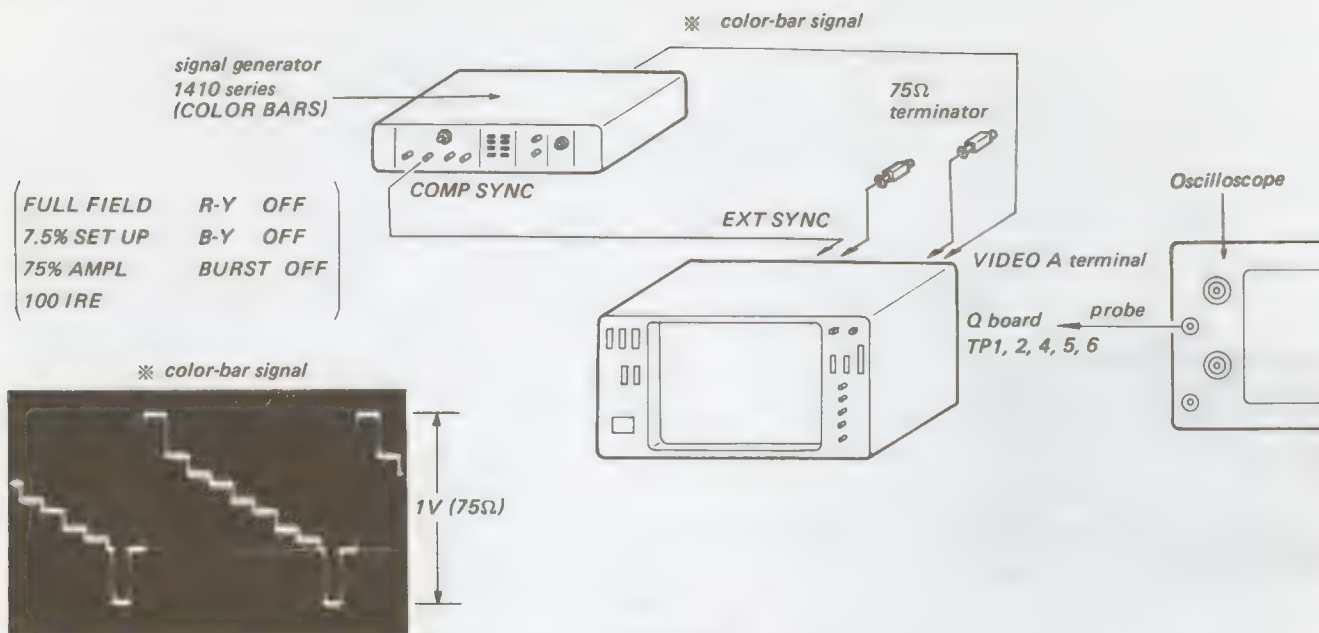

Fig. 5-30.
1. Complete the connections as shown in Fig. 5-30.